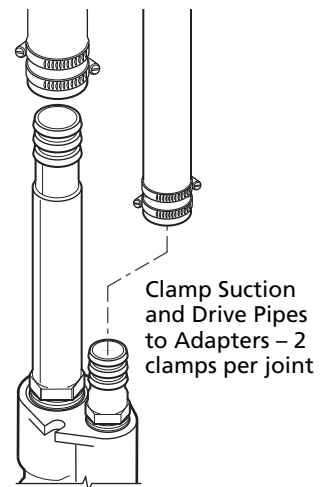

Figure 8
2. Connect plastic pipes to adapters with hose clamps (see Figure 8); use two clamps per joint. Put tightening screws on opposite sides of pipe as shown.